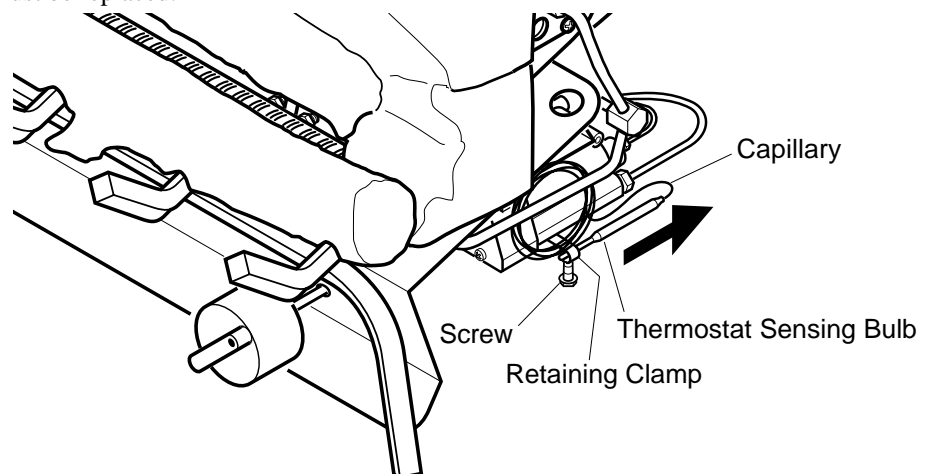

Figure 28 - Removing Thermostat Sensing Bulb
3. With 5/16" hex driver or socket, loosen the thermostat screw. Carefully slide the thermostat sensing bulb out of the retaining clamp (see Figure 28).